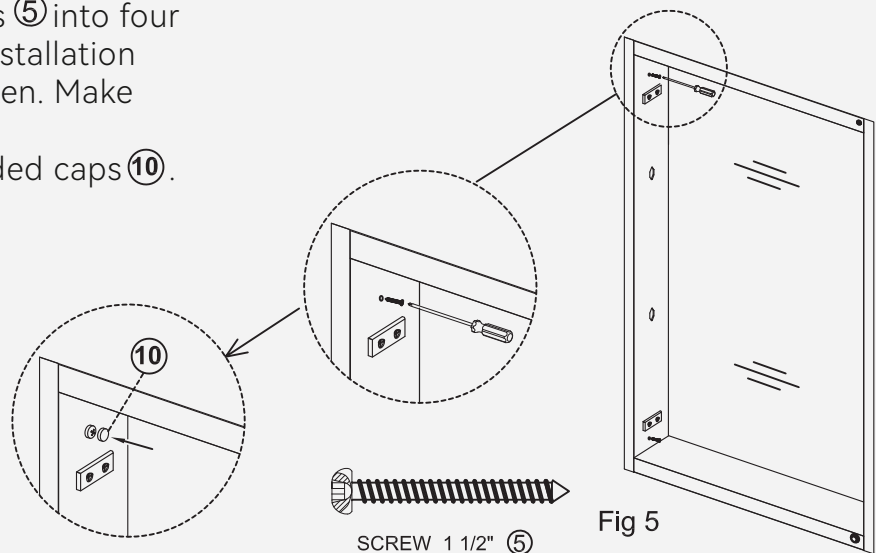

Fig 5
3. Insert four (4) #10 X 1/2" screws (5) into four locations provided for recessed installation (Fig 5). Be careful not to overtighten. Make sure cabinet is centered in rough opening. Cover screws with provided caps (10).